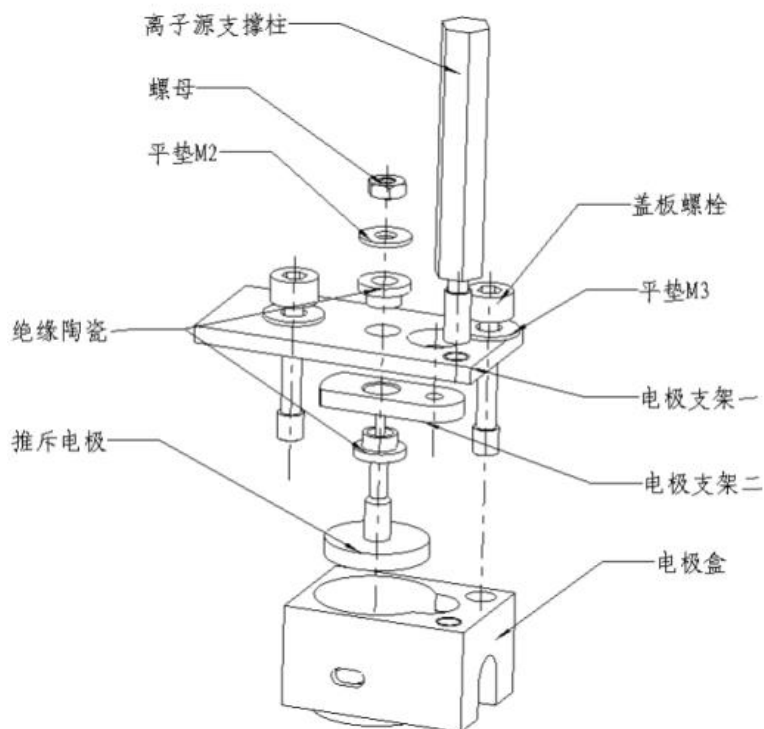

Figure 2-11 Ion source box and mounting jig
2. As shown in Figure 2-11, install the parts in an upward order.